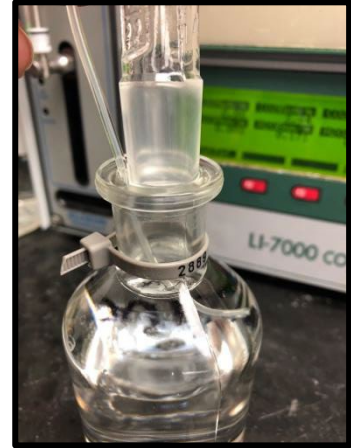

Figure 8. Proper placement for DIC hose in sample.
12. Now take the sample out of the water bath. Use the thermometer and record the temperature of the sample, sample should be 25°C. Insert the small hose on the right side of the pump (Figure 8). Then place the cap of the bottle light on the neck of the bottle to minimize CO₂ fluctuations between the sample and air. Enter the temperature in the box on the sample list screen.